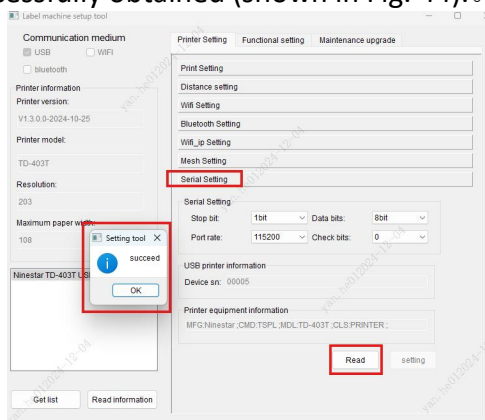

Fig.44
(6)Serial setting: Different stop bits, data bits, baud rates, and port rate can be set. Select "Serial setting" under the "Printer setting" section, click "Read," and a "succeed" prompt box will appear, indicating that the current printer's serial port settings have been successfully obtained (shown in Fig. 44).。